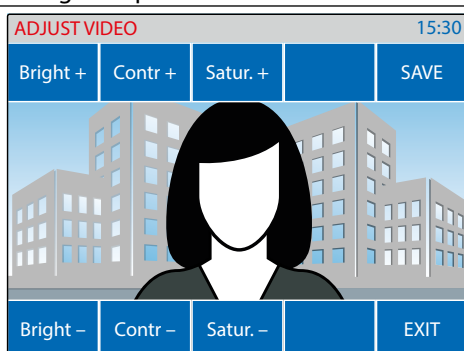

Fig. 21 Adjust the video for the selected door panel
- Select the door panel to connect to then tap the tick button to open the communication (**Fig. 21**).
- Once a good video quality is obtained, tap on the save button to confirm (**Fig. 21**).